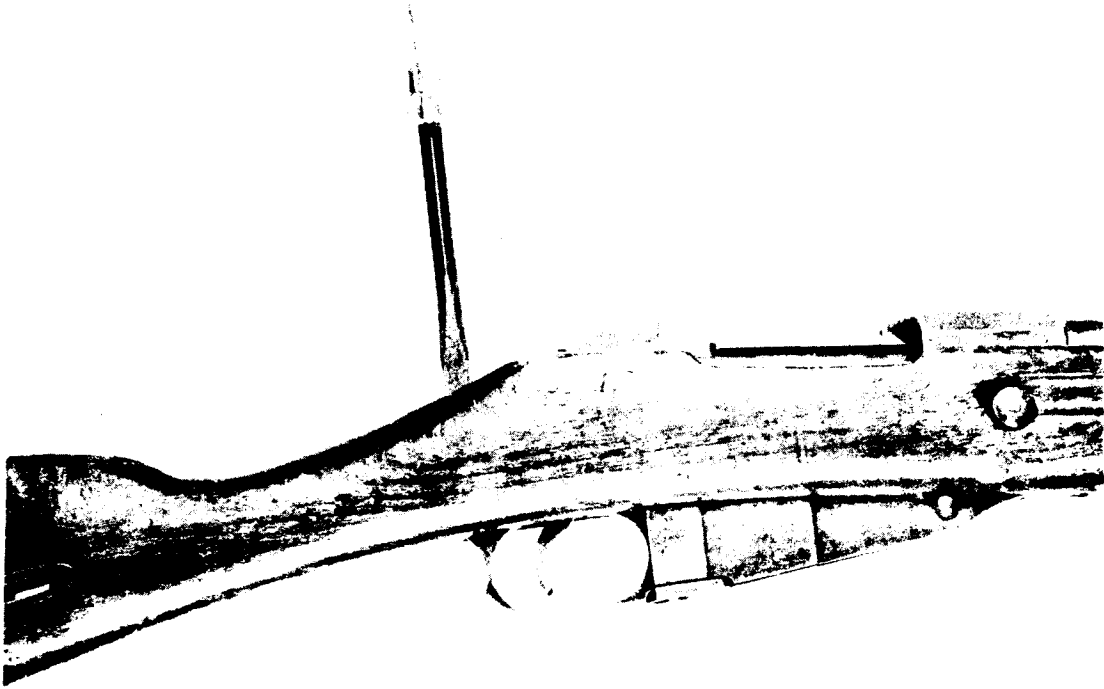
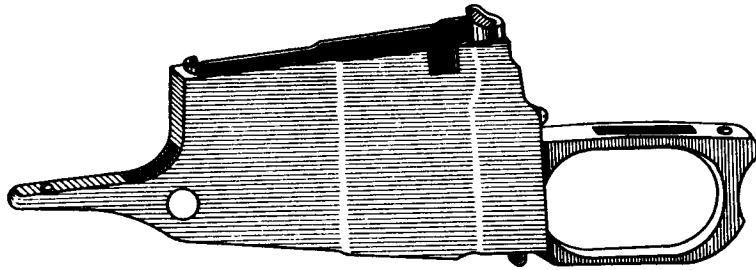

FIGURE 49. REMOVING REAR TRIGGER GUARD SCREW.
FIGURE 51. MAGAZINE AND TRIGGER GUARD.
- (4) To remove the magazine and trigger guard, extract the rear trigger guard screw from the top of the stock just forward of the small of the stock, and the front trigger guard screw from the forward part of the magazine on the bottom of the stock (figs. 49 and 50). (A screwdriver provided in the accessory kit is used for this purpose.) Pull the magazine and trigger guard (fig. 51) out of the stock.
- (5) The stock bands are removed by turning the screw to the right to expand the bands, then slipping the bands forward and off the stock.
- (6) To remove the one-piece interrupter-ejector, remove the screw and push the interrupter-ejector forward until it is disengaged from the dovetail.